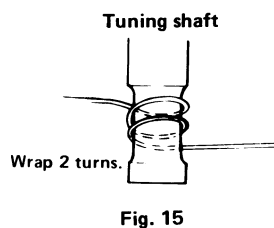

Fig. 15
6. Pull the dial cord taut and wrap 2 turns counterclockwise. See Fig. 15.